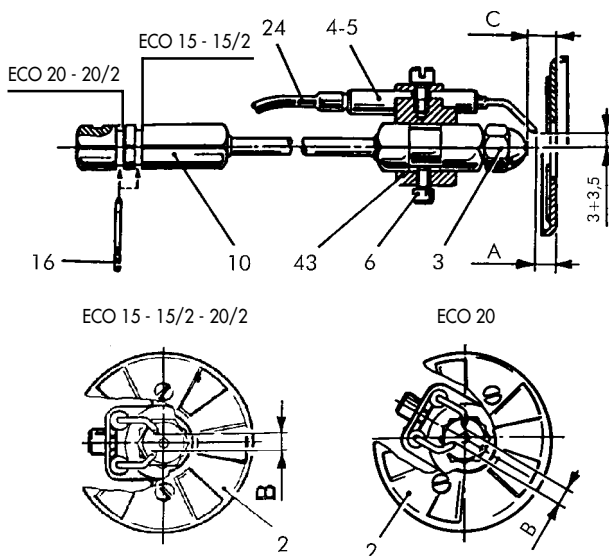

Fig. 14
- Nozzle (3) faulty or dirty.
- Ignition electrodes (4-5) encrusted or damaged (see positions in Fig. 14).
- Photo-resistor (19) obscured
- Faulty solenoid valve seal (29)
Clean the electrodes without varying their position with respect to the diffuser; if you accidentally move them observe the dimensions given in fig. 14 when re-assembling.